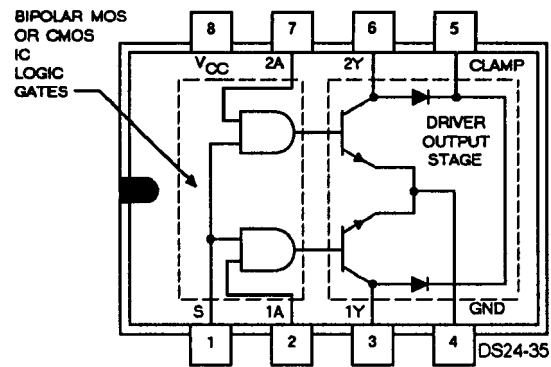

Figure 4-35.—Example of a peripheral driver IC.
- **Peripheral drivers** —Peripheral drivers receive an input from bipolar or MOS logic gate output and drive the output stage so that relatively large output currents can be controlled with low-level logic signals. Peripheral drivers use a single input and output application. They are very useful for driving indicator lamps or drive relays. See figure 4-35.